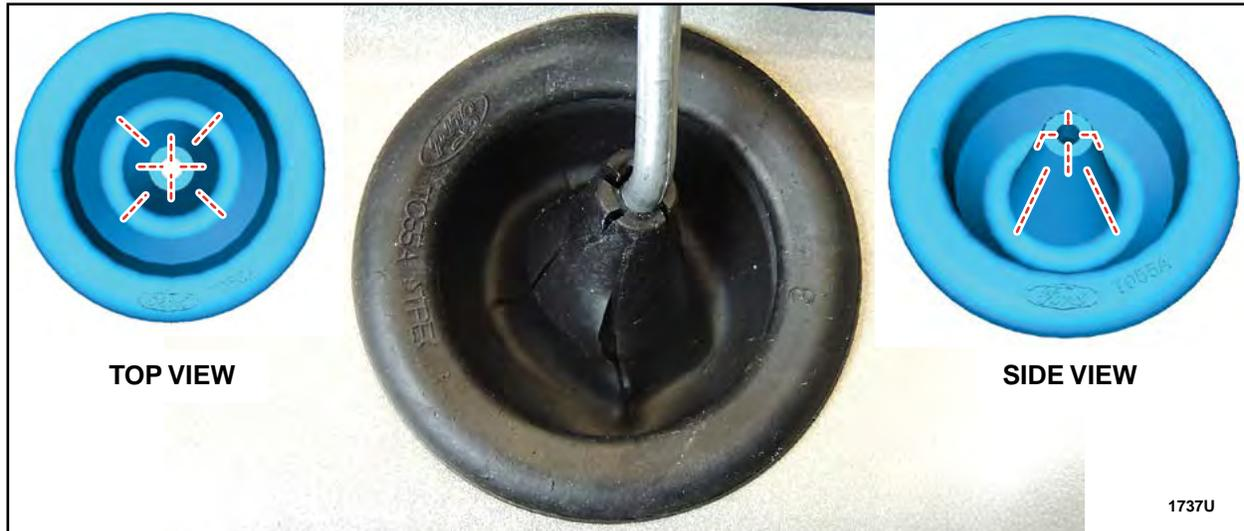

FIGURE 29
19. Modify the front door lock rod grommet. See Figure 29.